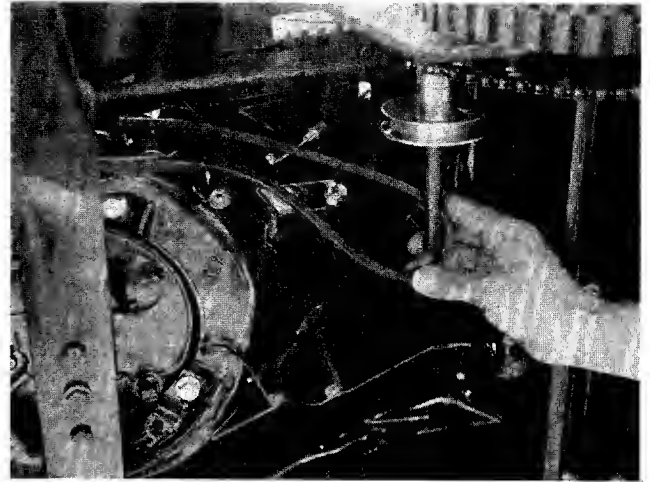

FIGURE 28.
9. Remove belt as shown in figure 28. Reassemble in reverse order with new belt.